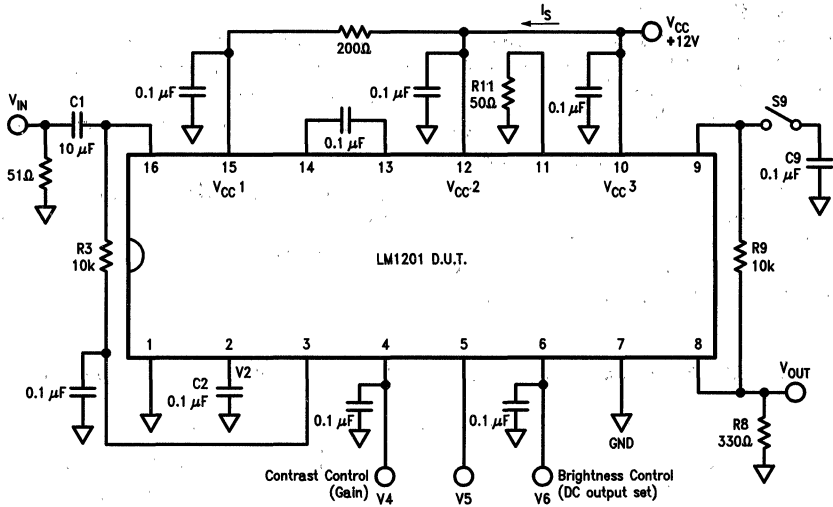

FIGURE 2. LM1201 AC/DC Test Circuit
**Electrical Characteristics** See Test Circuit (Figure 2),  $T_A = 25^\circ\text{C}$ ;  $V_{CC1} = V_{CC2} = V_{CC3} = 12\text{V}$